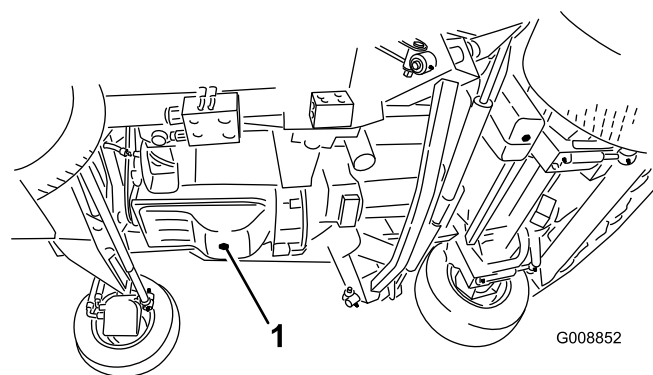

Figure 61
1. Remove the drain plug (Figure 61) and let the oil flow into a drain pan. When the oil stops, install the drain plug.